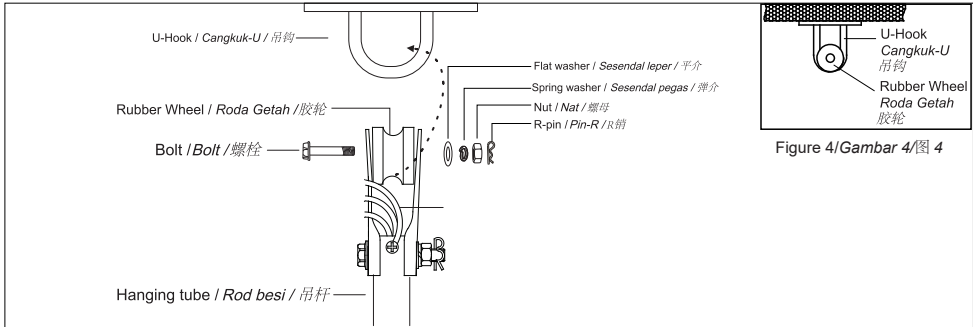

Figure 4/Gambar 4/图 4
2. Hang the rubber wheel on the U-Hook. (Figure 4)
步骤 2 (参见图 4)
2. 把胶轮挂在吊钩上。(见图4)